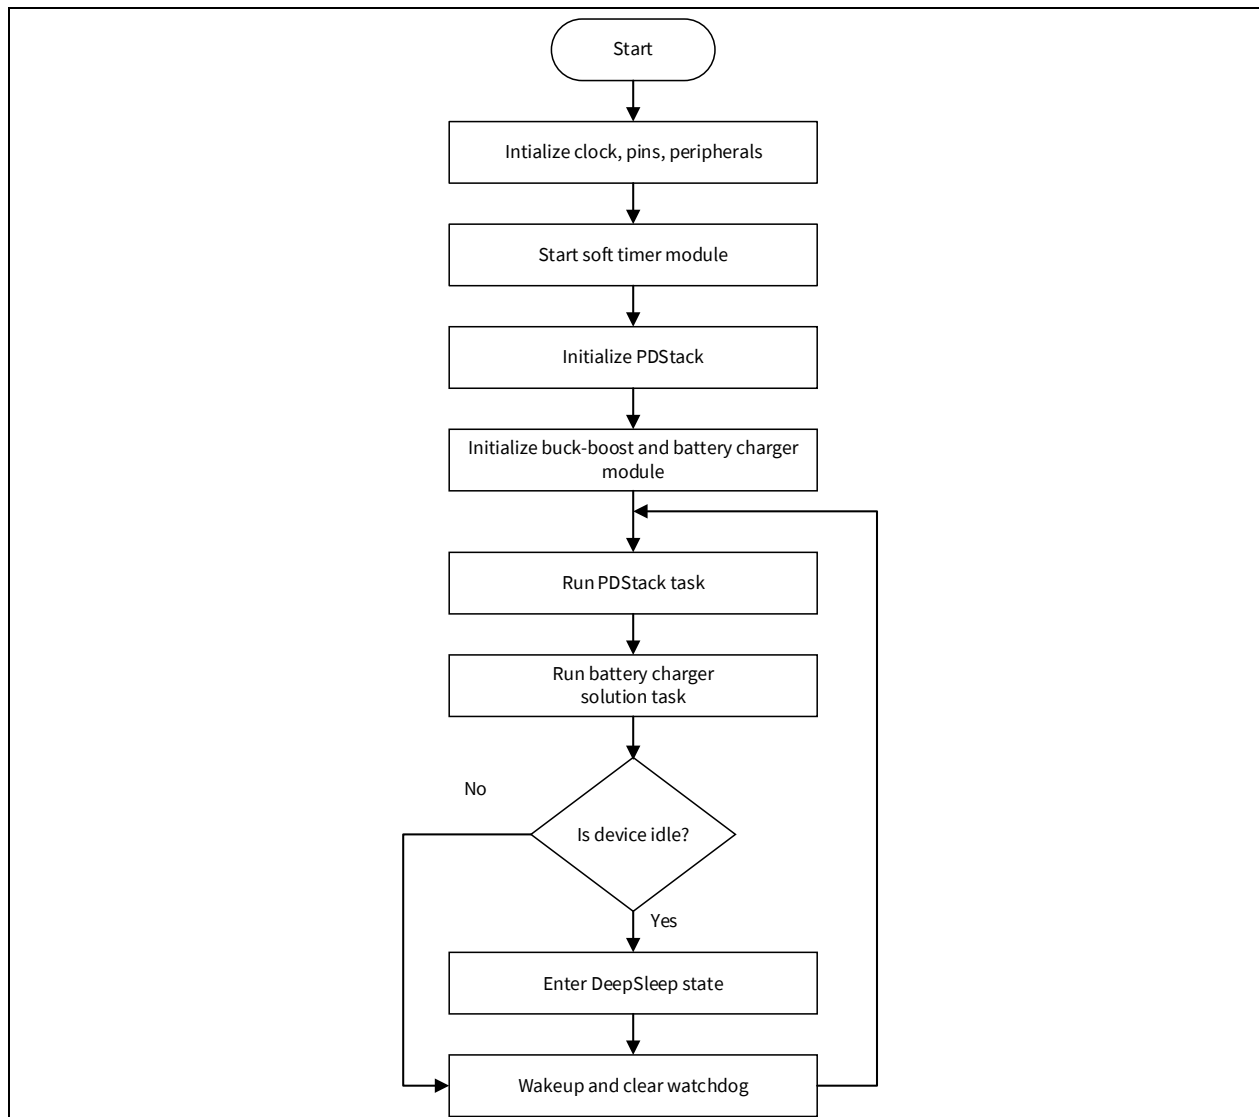

Figure 10 Firmware flowchart
- Examine the code in the `main.c` file of the application. For the firmware flowchart, see Figure 10.